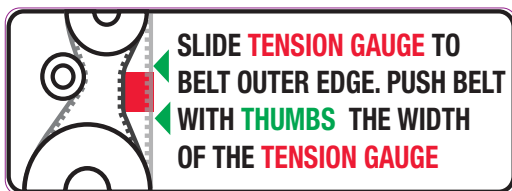

Figure 44
- **Recommended setting:** Required belt tension is 11 mm (7/16") of play, which corresponds to the width of the red tension gauge in the tensioner mechanism. See Figure 44.